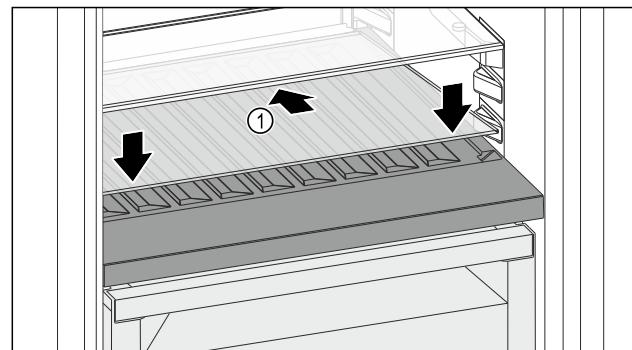

Fig. 88
- ▶ Place the glass shelf Fig. 88 (1) at an angle, sloping it downwards and backwards.
- ▶ Lower the glass shelf Fig. 88 (1) at the front.